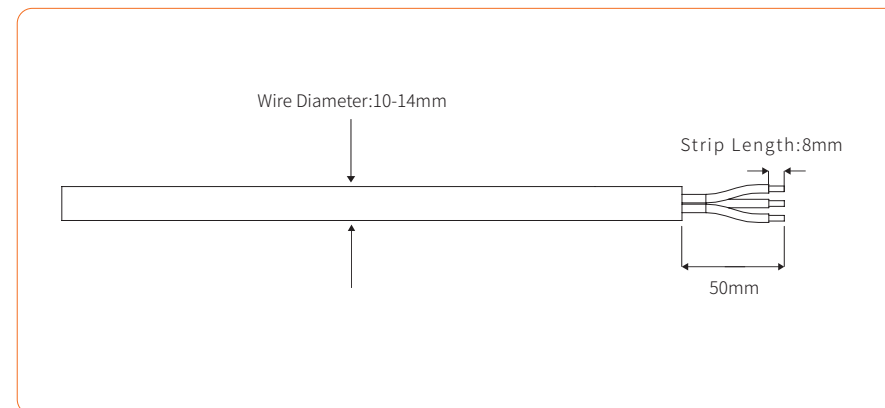

Figure 4-17
- ② According to the table above, select an appropriate cable, peel the insulation sleeve of AC cable off for 50mm, and peel off the end of L /PE / N wires for 8mm, as shown in Figure 4-17: